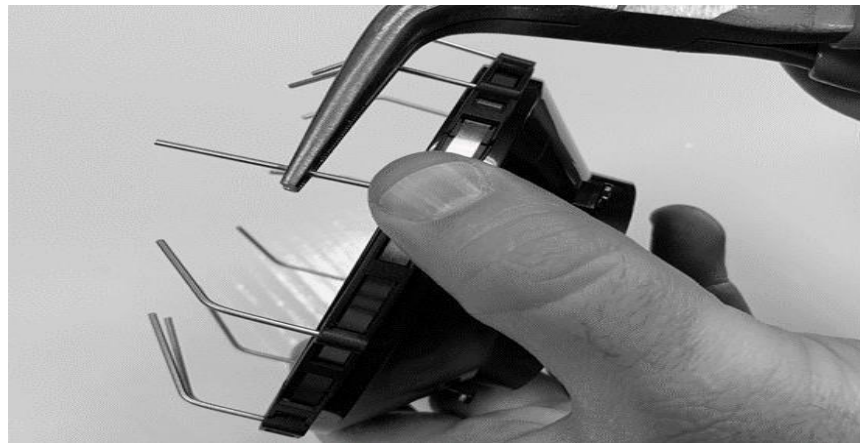

Figure 9
Step 8: Using the pliers, bend the Spikes over the opening of the rain funnel to prevent birds from nesting inside the funnel. Note, you will need to apply pressure to the silicone strips (Figure 9) to prevent the Spikes from ripping the silicone mate **Note: Some customers prefer to bend the spikes before placing into the silicone strips